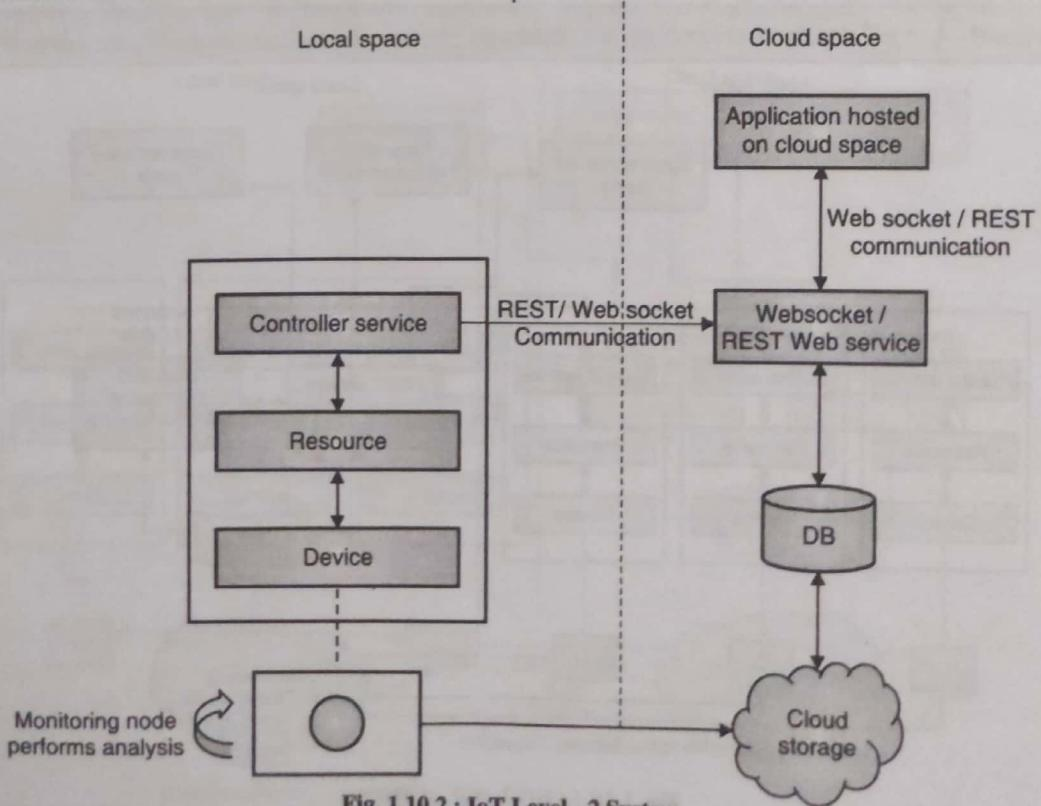

Fig. 1.10.2 : IoT Level - 2 System
- As shown in Fig. 1.10.2 a single node is responsible for sensing and analysis while data storage and application hosting is done in the cloud environment.